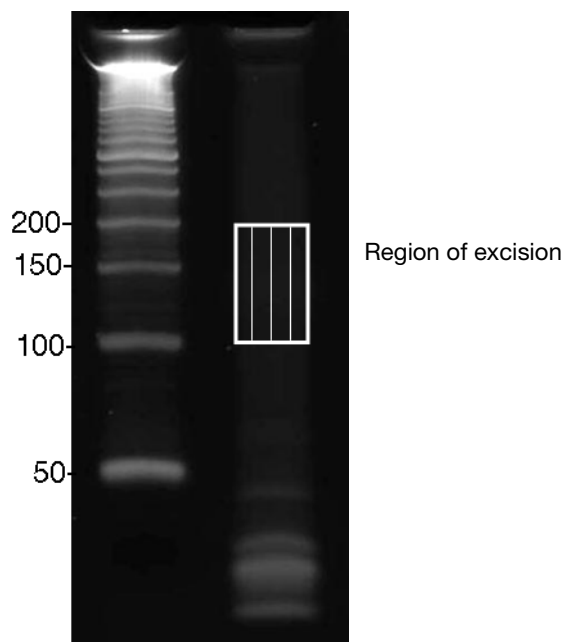

Figure 4 Example of size selection of cDNA from HeLa poly(A) RNA
Figure 4 shows 5 μL of purified cDNA from HeLa poly(A) RNA run on a Novex 6% TBE-Urea Gel with the Invitrogen 50 bp DNA Ladder. The white rectangle indicates the area of the gel to excise. Each vertical slice can be used for one 100- μL PCR.